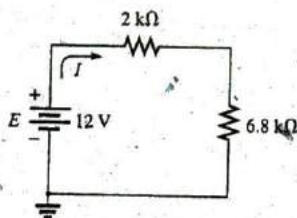

FIG. 5.127
45. a. Determine the current through the circuit in Fig. 5.127.
b. If an ammeter with an internal resistance of 250 Ω is inserted into the circuit in Fig. 5.127, what effect will it have on the current level?